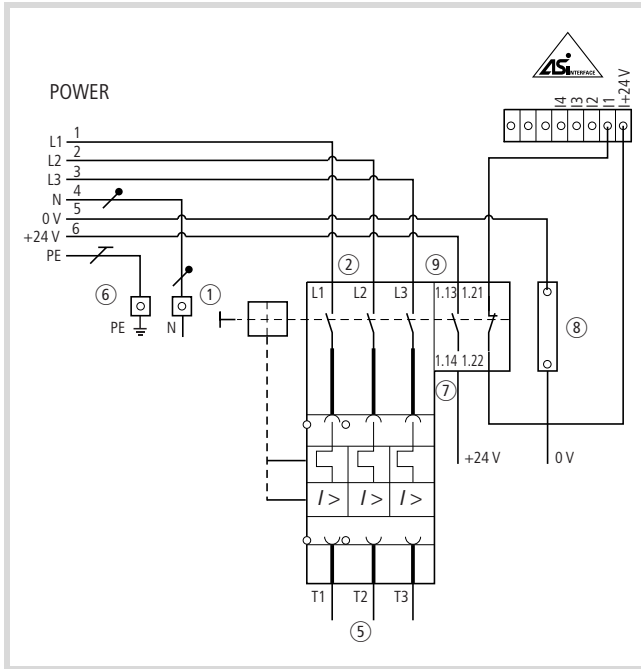

Figure 38: Wiring of disconnect control unit (for legend, see figure 37)
- ▶ Feed a 7×2.5 or 7×4 mm² round cable (T1, T2, T3, N, PE, 24 V, 0 V) in to the busbar, fit the connectors and connect it as shown in figure 38.
- ▶ Fed the round cable(s) $5 \times 2.5/4/6$ mm² (L1, L2, L3, N, PE) and $2 \times 2.5/4/6$ mm² (24 V, 0 V) or alternatively $7 \times 2.5/4$ mm² (L1, L2, L3, N, PE, 24 V, 0 V) in to the busbar, fit the connectors and connect them as shown in figure 38.